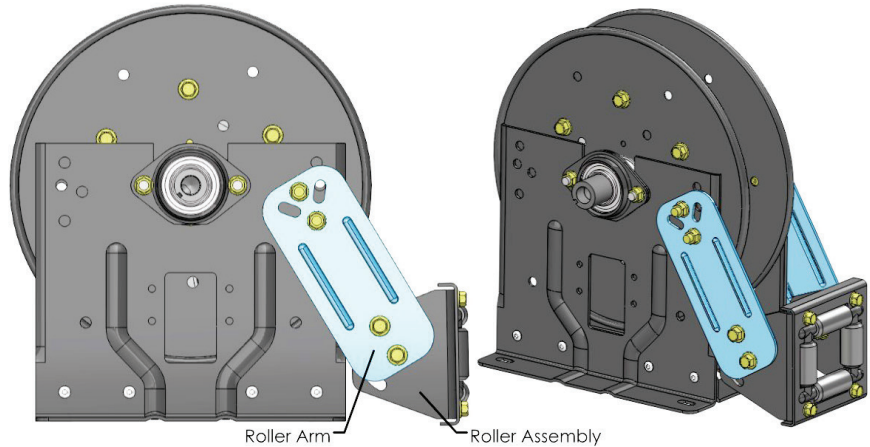

Figure 15 - Reel with Rollers in the “SR” Position
2. Remove spring per Hannay TSB 2013.06.003 Changing a Hannay Spring Motor, this can be found at [www.hannay.com](http://www.hannay.com). The reel should look like Figure 15.